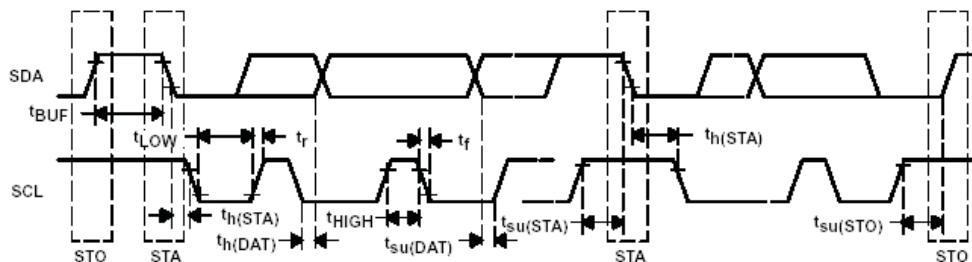

Figure 5. I2C Interface Timing Diagram
**Note:** All timing specifications are measured at characterization but not tested at final test. The audio serial interface timing specifications are applied to Audio Serial Interface number 1, Audio Serial Interface number 2 and Audio Serial Interface number 3. (See Figure 5)